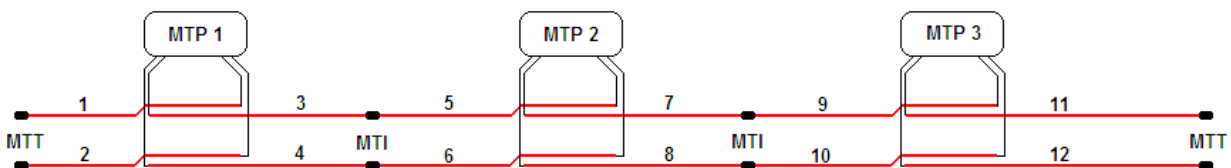

Figure 2
As an example, there is a configuration using three (3) MTP II processors and the lead-in cables are not marked as shown in Figure 2. In order to determine cable A, B, TX and RX, perform the following steps. *Note: the numbers above the cables refer to the trench locations.*